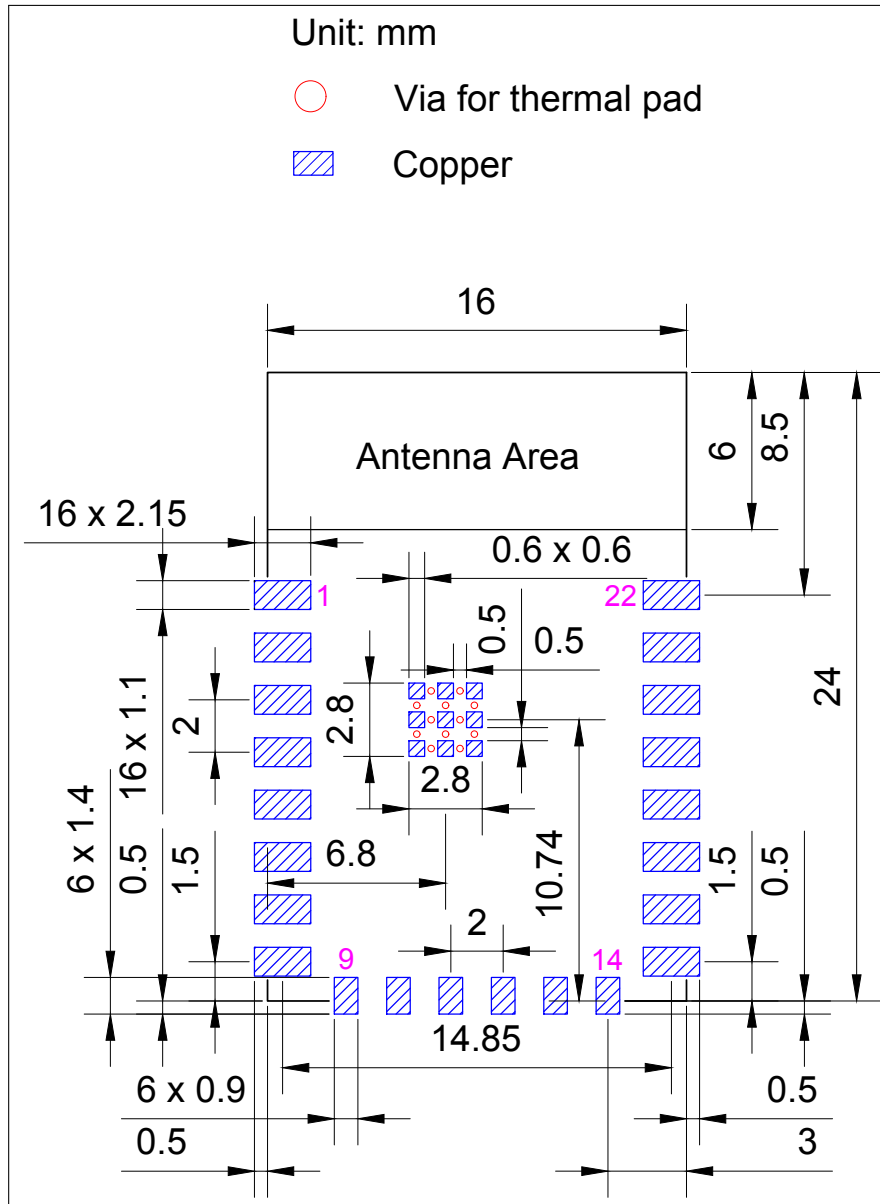

Figure 7: Recommended PCB Land Pattern
- Figure for the recommended PCB land pattern with all the dimensions needed for PCB design. See Figure 7 *Recommended PCB Land Pattern*.
- Source file of the recommended PCB land pattern to measure dimensions not covered in Figure 7. You can view the source files for ESP8685-WROOM-01 with Autodesk Viewer.